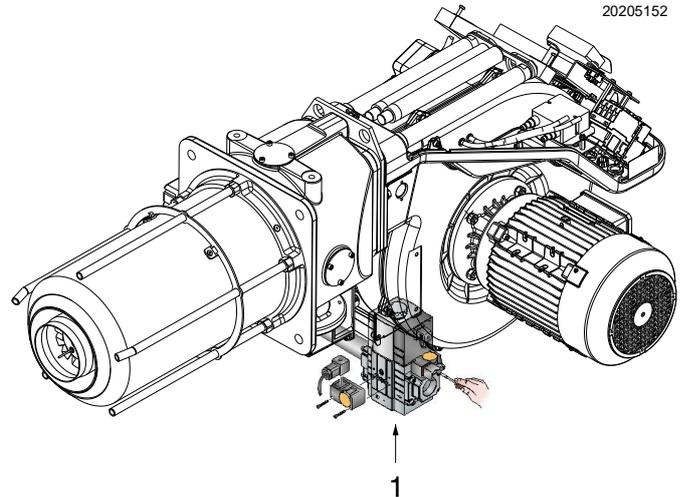

Fig. 32
- Check the gas supply pressure by connecting a pressure gauge to the pressure test point 1)(Fig. 32) of the minimum gas pressure switch: it must be lower than the maximum allowed pressure of the gas train, as shown on the characteristics label.
Measure the gas delivery on the gas meter. As an indicative guide it can be taken from Fig. 26, Fig. 27, Fig. 28 e Fig. 29 on page 29, just read the gas pressure on the pressure gauge (shown in Fig. 32 on page 32) and follow the instructions given on page 27.